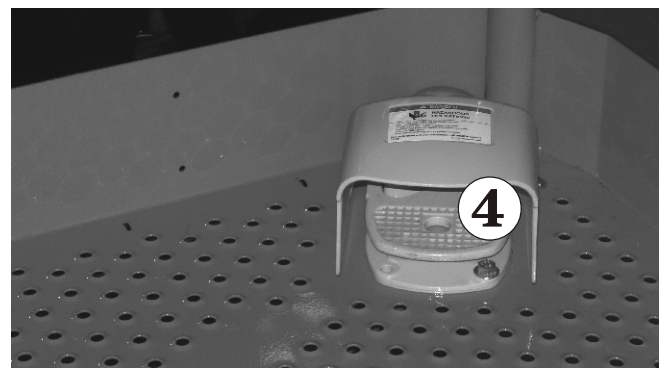

Figure 11.7 - Enable Switch (Foot)
4. Step on the platform foot switch ④ (see Figure 11.7).
5. Operate the Enable switch ⑤ by pressing the switch down and hold it down .
6. Whilst still operating the enable switch, press and hold the **Emergency Lower** switch ⑥ down and the upper boom will begin lowering.
**Enable ⑤ or ④ (foot switch - Figure 11.7)**
**Emergency Lower ⑥**